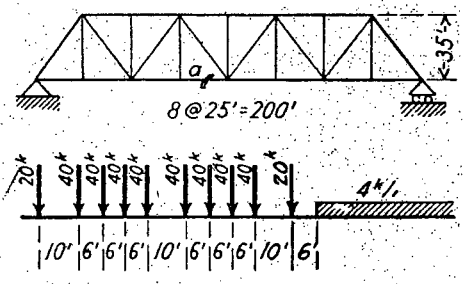

Fig. 5
5. Calculate the maximum bar force in member 'a' due to the wheel load shown in Fig. 5. (21)